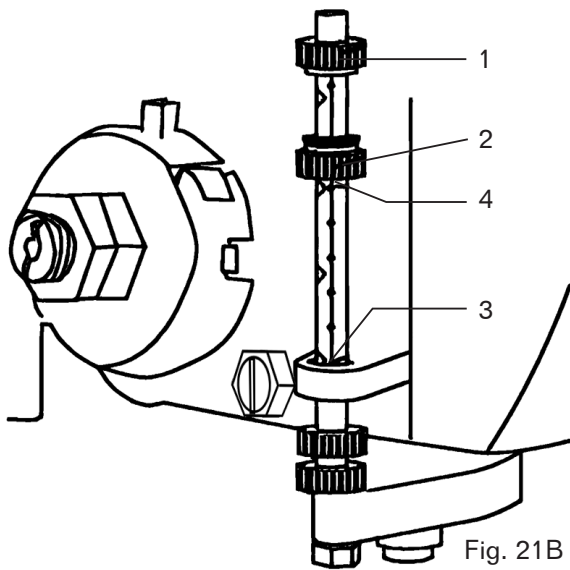

Fig. 21B
#### DEPTH SCALE METHOD (FIG. 21B)
1. Make sure the 0 (in or mm) mark on the depth gauge rests at the top edge of the metal support (Fig. 21B - 4) when the quill is fully retracted.
4. Rotate the depth knob (Fig. 21B - 2) until it is aligned with the desired depth mark (Fig. 21B - 3) (for example, 1") on the gauge scale.